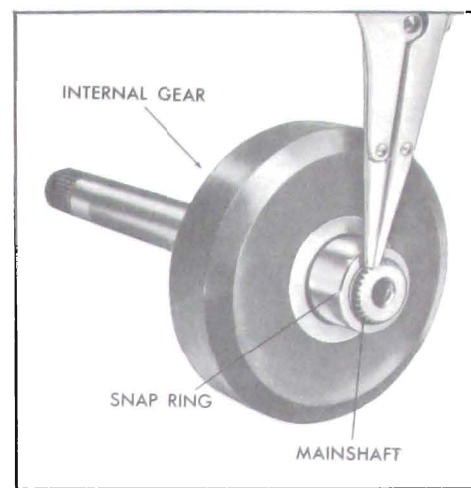

Figure 5-691
2. Install internal gear retaining snap ring. See Figure 5-691.